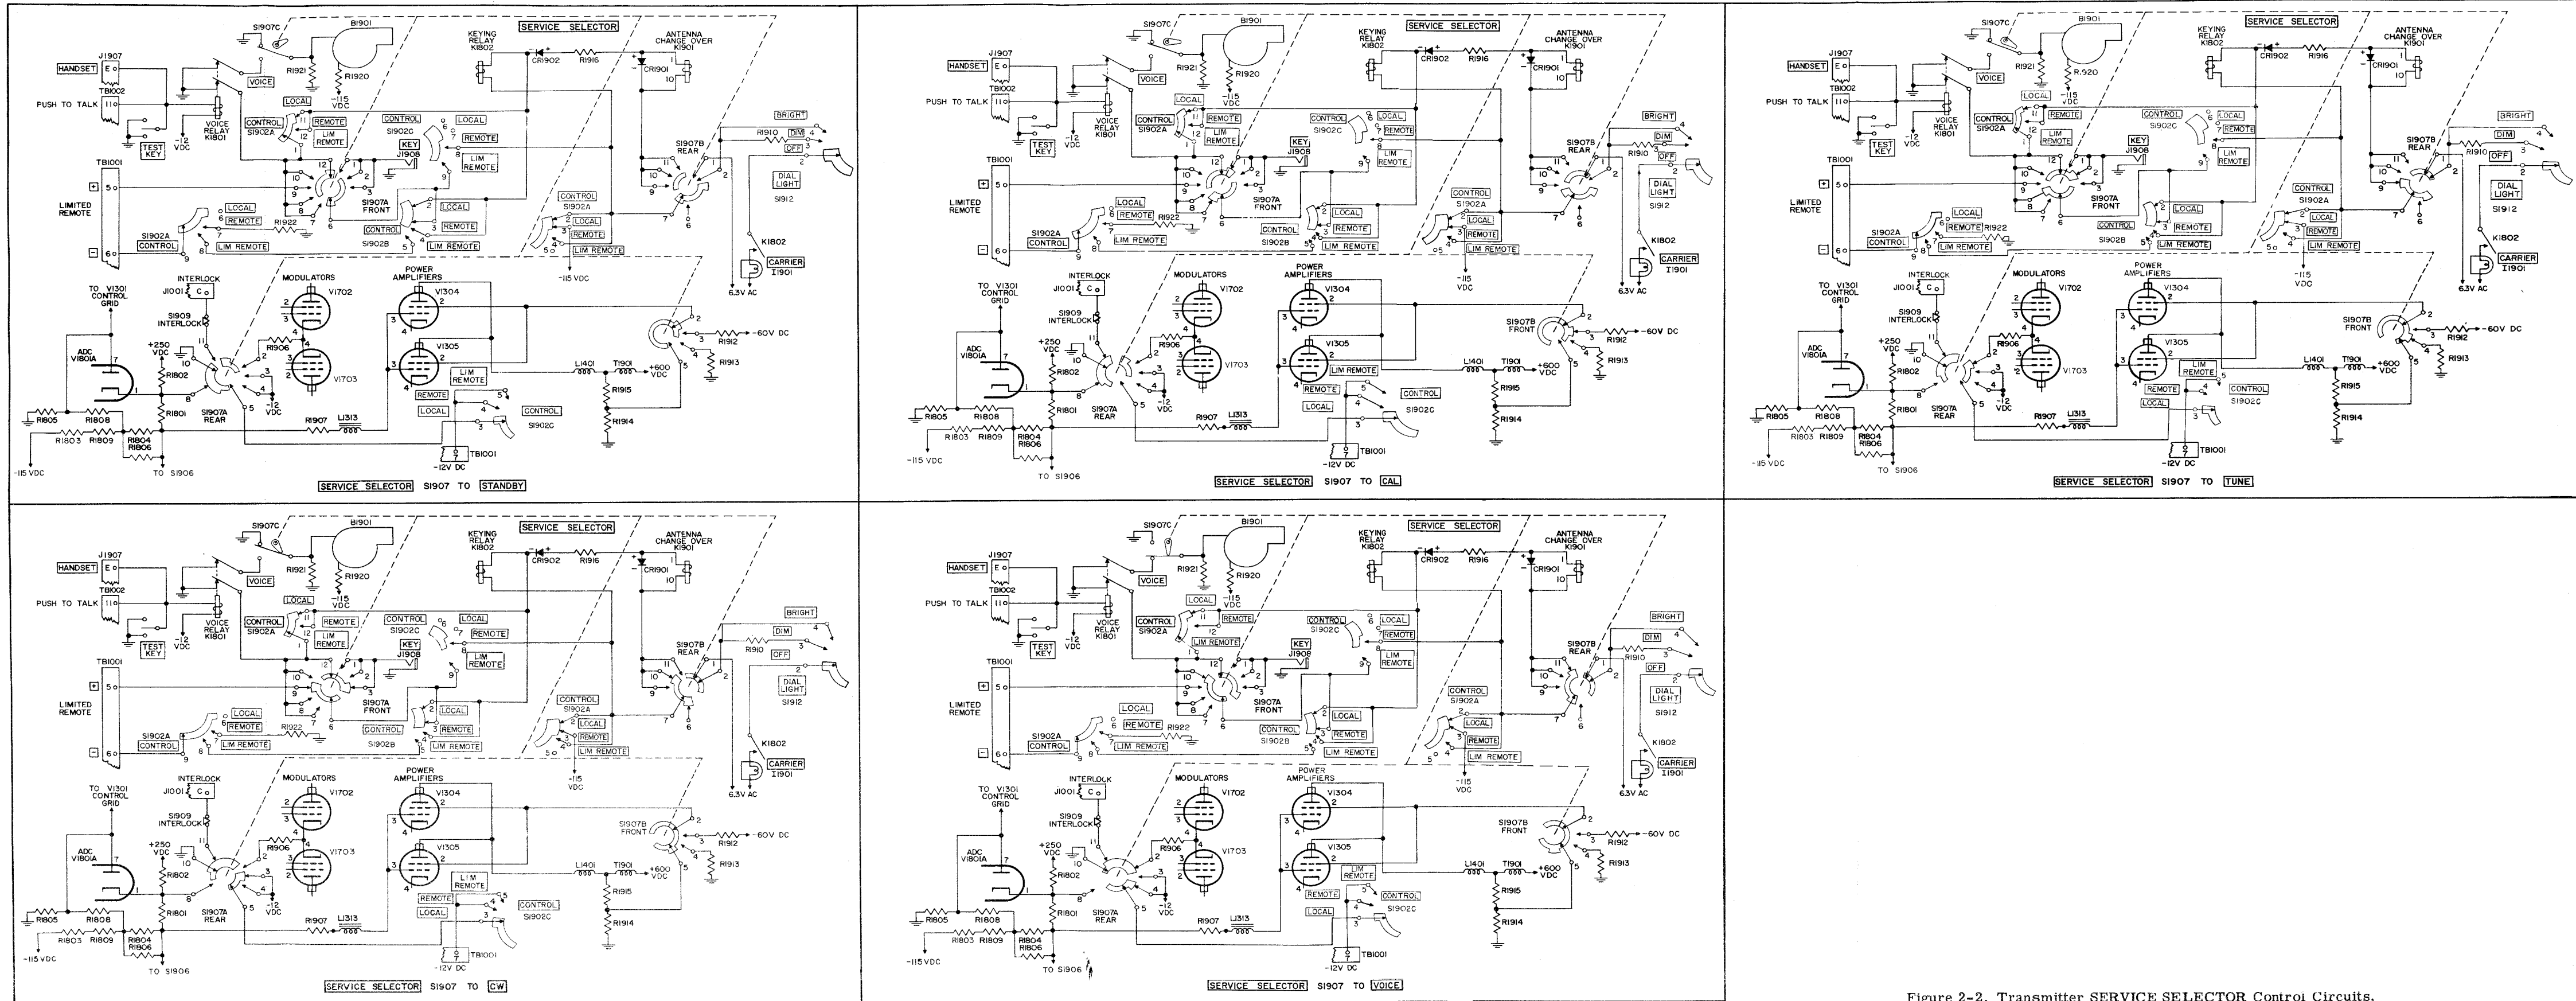

Figure 2-2. Transmitter SERVICE SELECTOR Control Circuits, Simplified Schematic Diagram
(1) Figure 2-2 shows the voltages and circuits switched by the SERVICE SELECTOR switch S1907. Separate simplified schematic diagrams show the circuit conditions for each of the five positions (STAND BY, CAL, TUNE, CW, and VOICE) of the SERVICE SELECTOR.
(2) The START switch S1904 and the STOP switch S1905, provide for turning Power Supply PP-1190(XN-1)/URC-8 on and off from the front panel of the radio transmitter. The CONTROL switch S1902 switches control circuits to the rear panel terminal boards TB1001 through TB1003 to provide for remote or limited remote operation of the radio set. The METER switch S1906, in conjunction with the front panel meter M1901, provides for metering the total power amplifier grid current, the total power amplifier cathode current, and the total modulator cathode current.